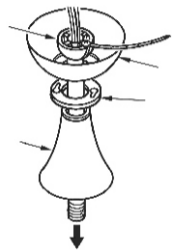

Fig.8
Step 2: Route wires through canopy cover, canopy and hanger ball. (fig. 8)